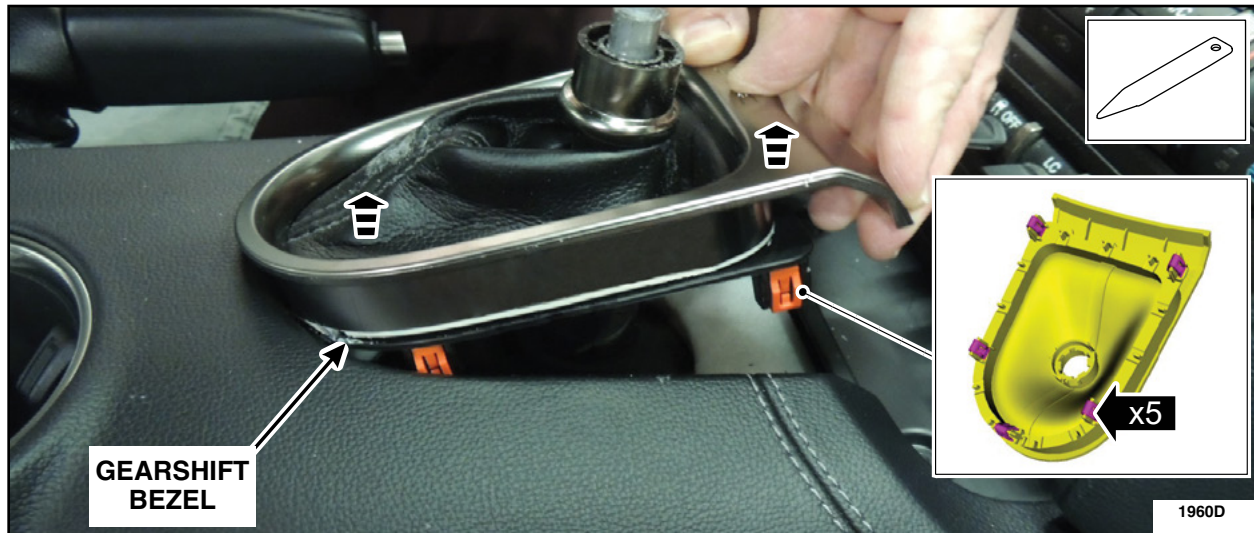

FIGURE 3
3. Using a plastic trim tool, gently pry upwards to release the gearshift bezel. See Figure 3.